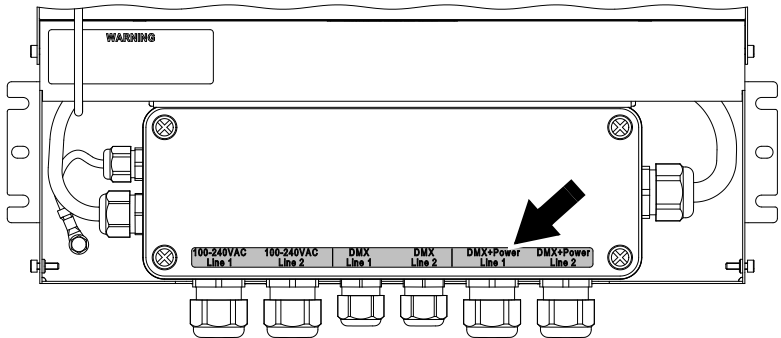

Figure 17: PSU inner cover – correct reinstallation
1. See Figure 17. Check that all mating surfaces are in perfect condition and reinstall the inner cover as it was originally installed, with the connectors label (arrowed) over the connectors, tightening all four inner cover screws securely.